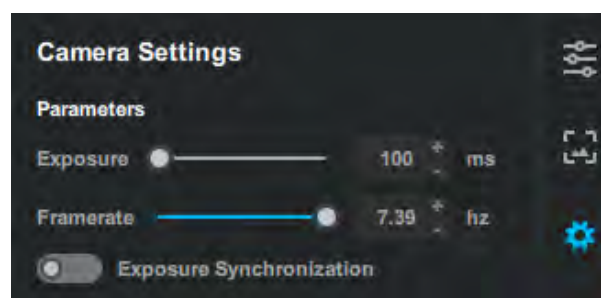

Figure 11.12.5: Figure: Widefield/TIRF camera settings panel in BlueLake.
- The second setting in the right-hand side toolbar is **Camera Settings** (see Figure 11.12.5). This panel allows the user to adjust the exposure time and framerate of the camera. These values are intrinsically linked and will limit each other's values when set.